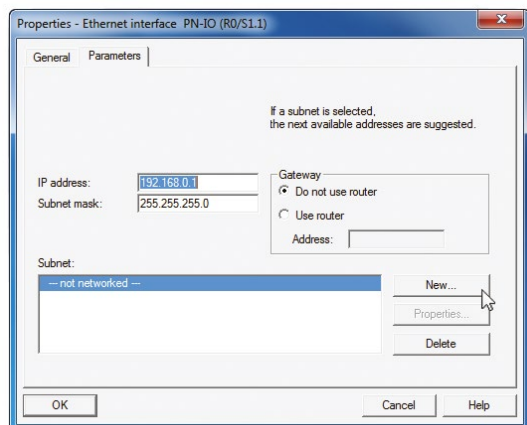

Fig. 58: Set IP address of CP1616 (source: Siemens)
- CP1616 (Fig. 58)
The dialog box “Properties – Ethernet interface” opens (Fig. 58). Set the IP address of your CP1616.
6. To create a subnet, click button “New” (Fig. 58).